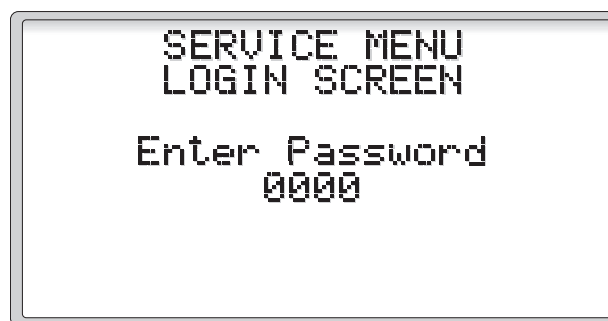

Figure 16
2.2.3 Service Menu (Figures 16 and 17)
Selecting the SERVICE MENU will display the Service Login screen (Figure 16). Enter the service password, 1234, and press **ENTER**.